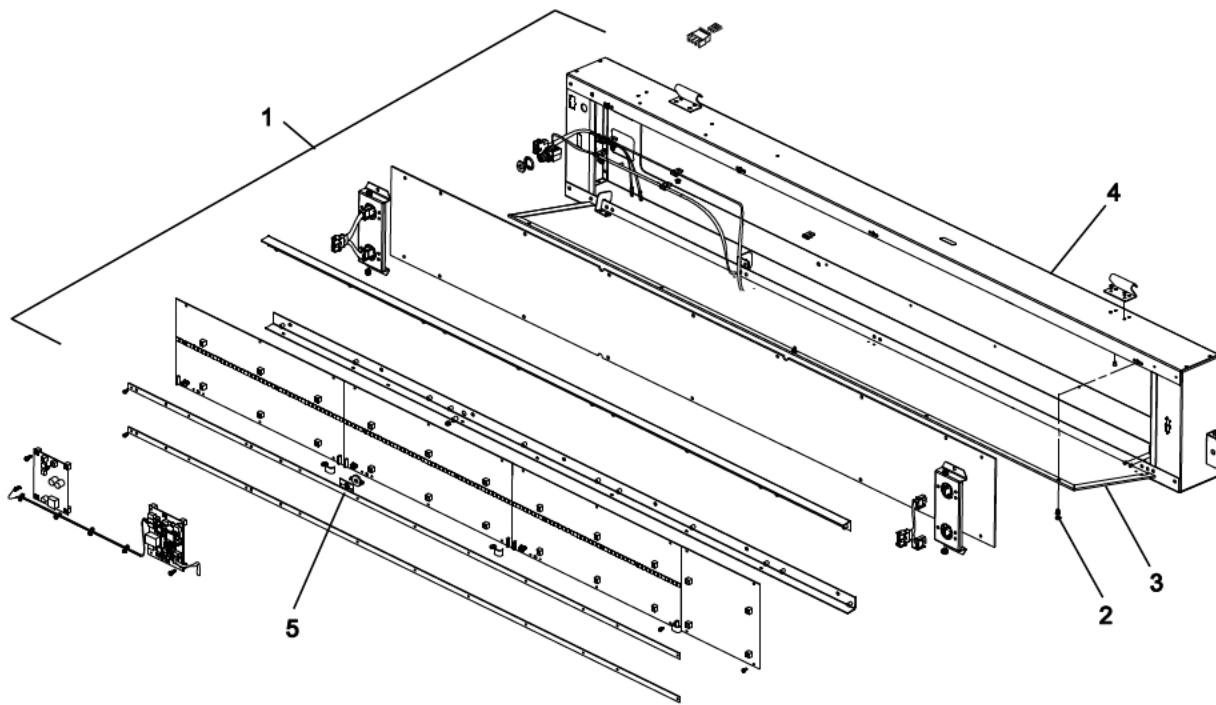

Figure 8-20: Replace Front Destination Sign Light Sensor PCB
1. Remove front destination sign assembly (1, Figure 8-20) from its mounted location.
2. Remove ten 6-32 x 5/16 SEM screws (2) that secure backplate assembly (3) to front panel assembly (4).
3. Carefully separate backplate assembly (3) from front panel assembly (4) to access electrical wiring and harnesses.
4. Tag and disconnect electrical wiring connectors from the light sensor PCB (5).
5. Remove light sensor PCB (5).
6. Install replacement light sensor PCB (5).
7. Connect electrical wiring connectors to the light sensor PCB (5).
8. Install the backplate assembly (3) to the front panel assembly (4) using ten 6-32 x 5/16 SEM screws (2).